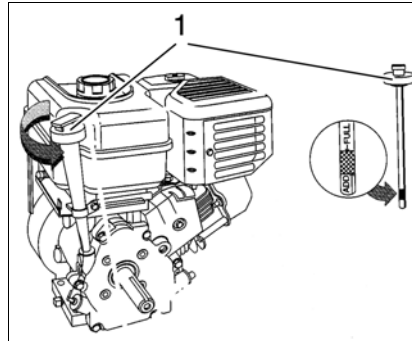

Fig.19 Engine oil level check
- Unscrew plug (Fig. 19/1) with dipstick.